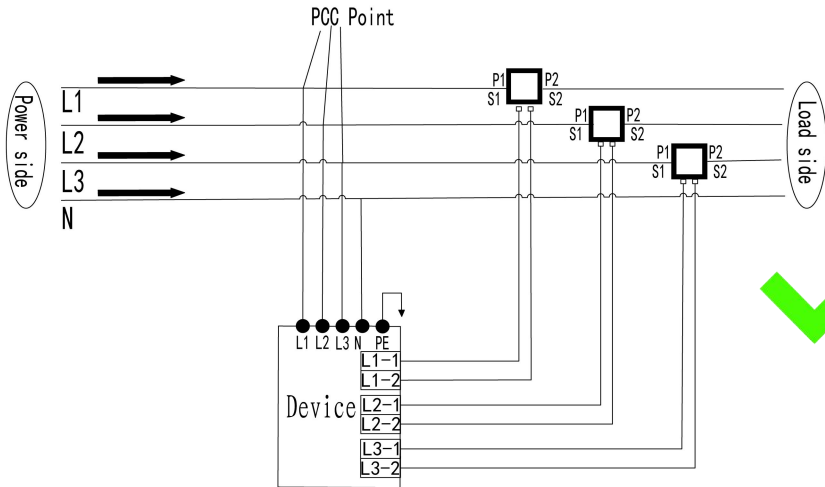
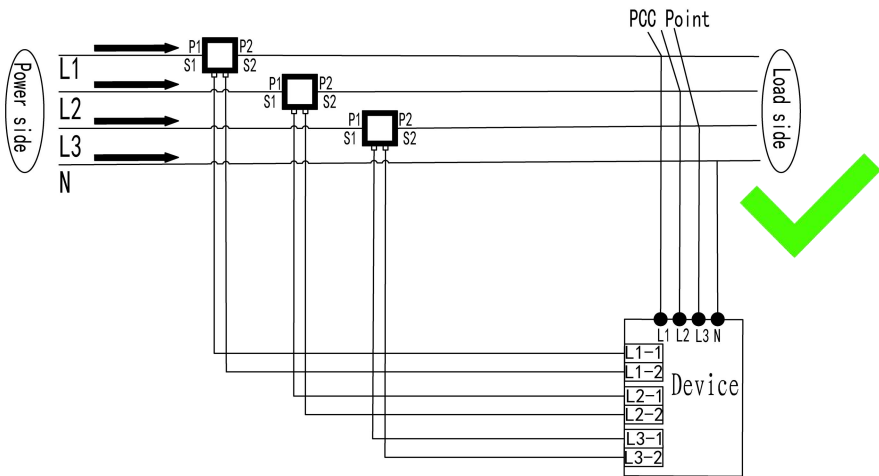

Figure 3-2A
Figure 3-2B
- Adopt the correct power distribution method (see Figure 3-2A and Figure 3-2B) to ensure the safety of AHF and user device; The main circuit wiring mode is shown in the figure. The wiring should ensure that the phase sequence of the power grid is consistent with the phase sequence of the device. Otherwise, the device may not start normally. The installation direction of the transformer must be close to the load as shown on the P2 surface. The S1 and S2 of each transformer must correspond to the AHF port with the corresponding label. It is strictly forbidden to open the secondary side.(If the circuit is open,